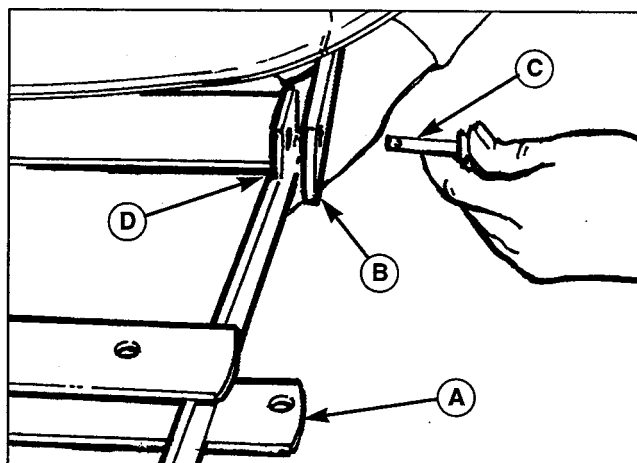

Figure 11.
3. See Figure 11. Align the mounting holes in the rear corners of the push bar (A) with the mounting holes in the hitch (B), and secure the push bar to the hitch with a clevis pin (C), and spring clip (D) at each corner.